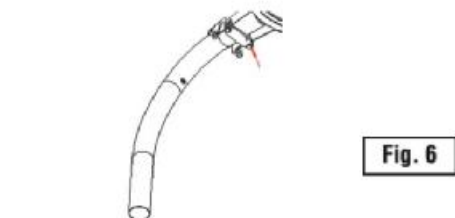

Fig. 6
5. Insert arm into the U-slot on luminaire. Use the two provided hex screws to secure arm, as shown in Fig. 6.